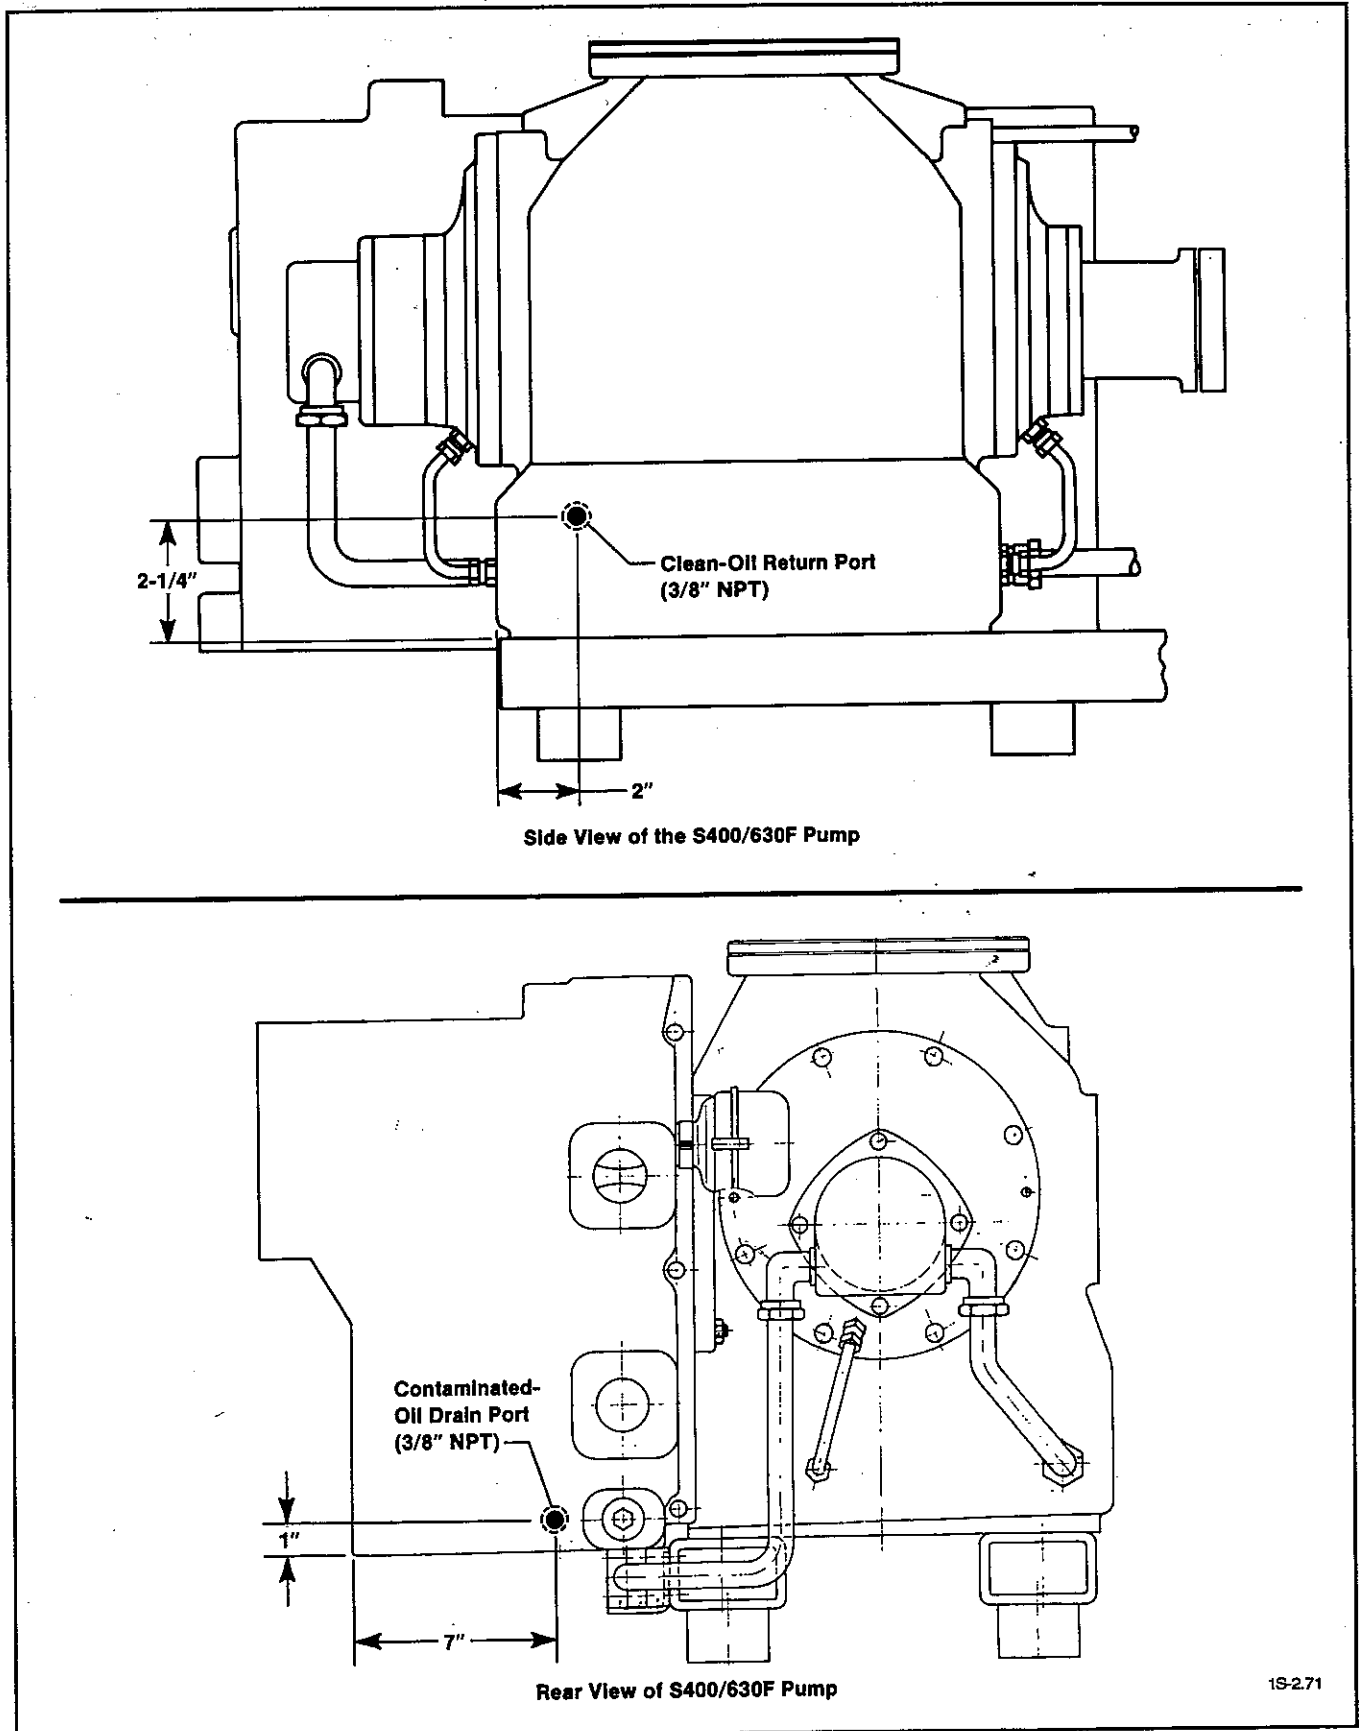

Figure A-2. Location for Drilling the Fill & Drain Ports on the S400/630F Pump Models for Connecting the OF-3000 Hoses
- a. Mark the hole locations as shown in Figure A-2.
- b. Remove the elbow (14) from the quick-connect stems.
7. The OF-3000 hose leading from the canister attaches to the hole labeled "Clean Oil Return Port" in Figure A-2. The OF-3000 hose leading from the gear pump attaches to the hole labeled "Contaminated Oil Drain Port".